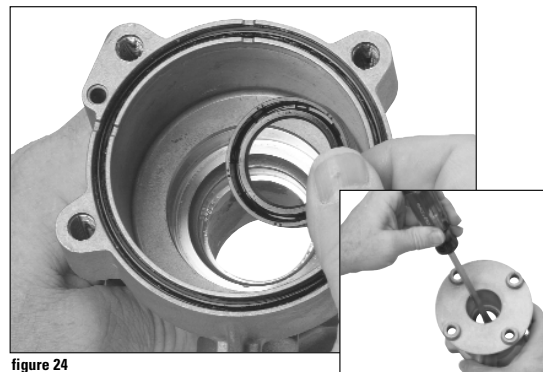

figure 24
3. Remove the pump shaft seal by tapping the seal towards the front of the oil reservoir using a suitable tool. (inset figure 24)